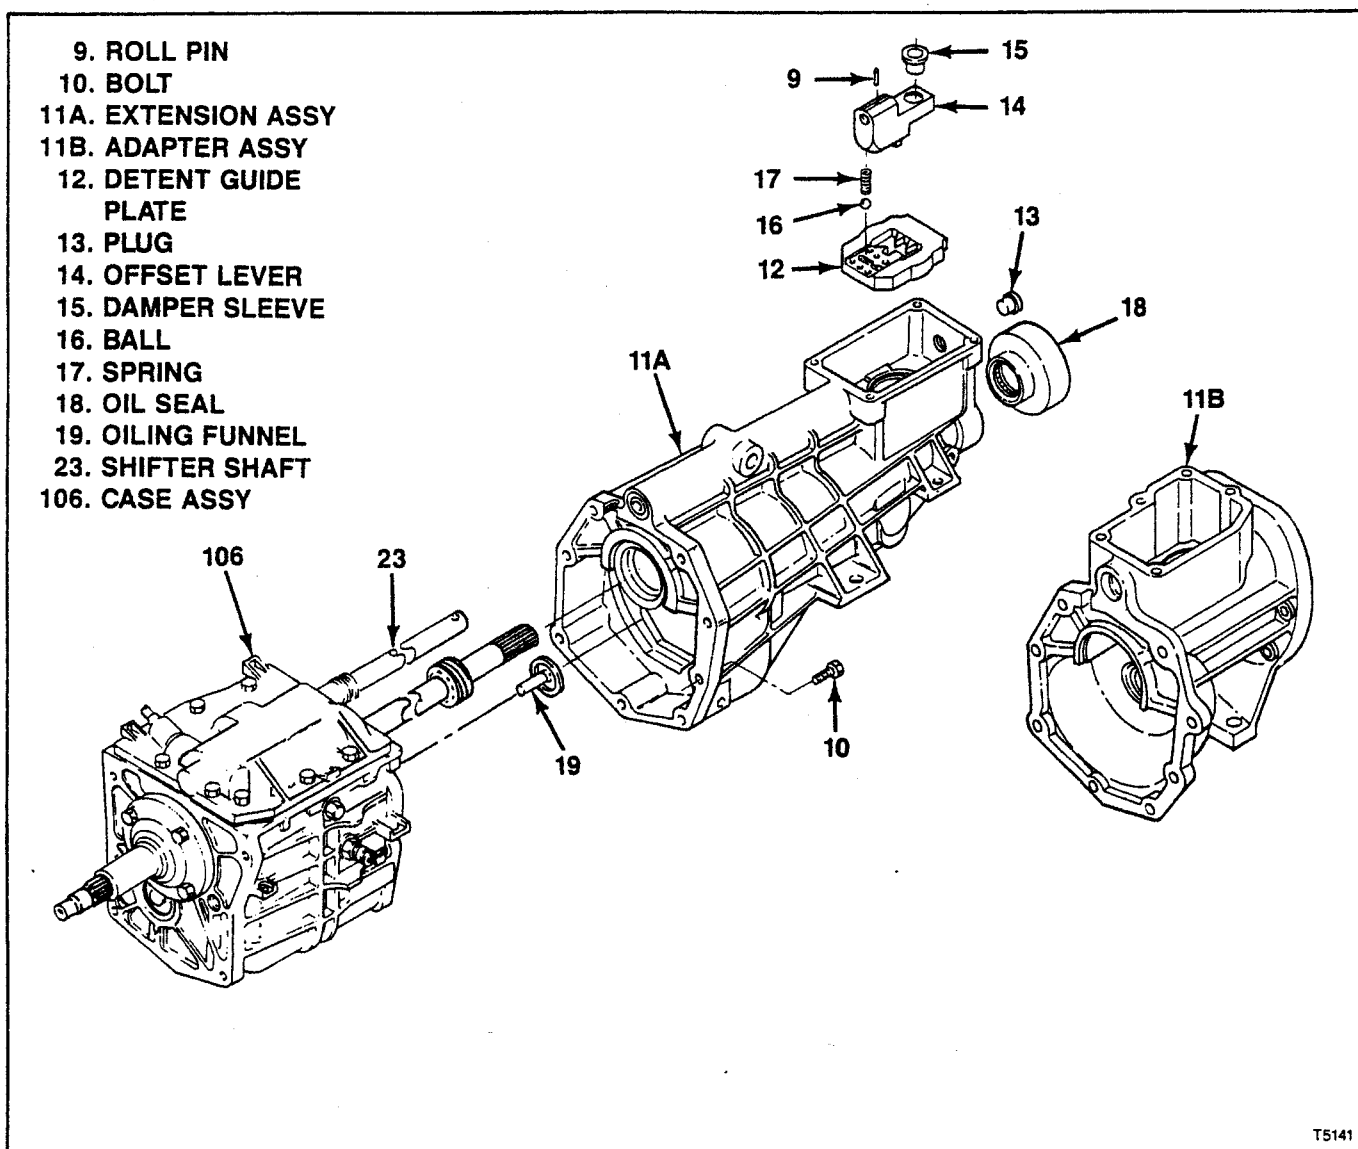

Figure 4-2. T5 NWC Extension or Adapter
Failure to shift transmission into neutral at 3-4 position before removing control lever and housing assembly may result in driving roll pin (9, figure 4-2) into detent guide plate (18) when pin is removed (paragraph 4-8).
- c. Remove screws (2).
- d. If necessary, use suitable knife to break sealant bond between control lever and housing assembly (3A or 3B) and extension (11A) or adapter (11B). Remove control lever and housing assembly. Remove boot (4) only if replacement is required.
- g. If used, remove neutral switch (6), pin (7) and wire retainer (8).
4-8. REMOVAL OF T5 NWC EXTENSION OR ADAPTER. With offset lever accessible and in neutral at 3-4 position (paragraph 4-7, step b), proceed as follows (see figure 4-2):